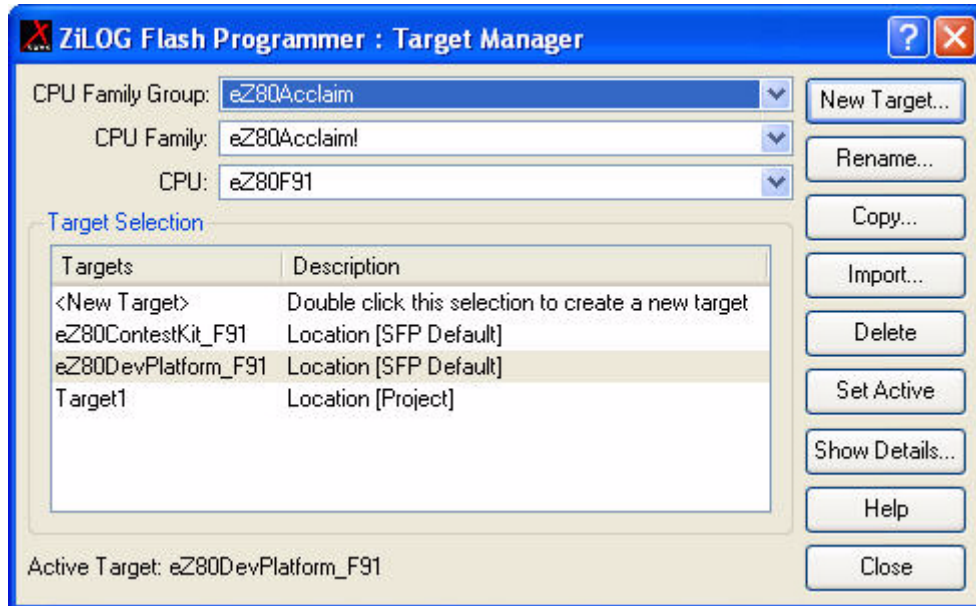

Figure 51. Target Manager
1. On the **Target** menu, select **Manage Targets**. The **Target Manager** window (Figure 51) is displayed.
- Enter the name for the new target and click **OK**. The new target appears in the **Target Selection** list of the **Target Manager** window (Figure 51).